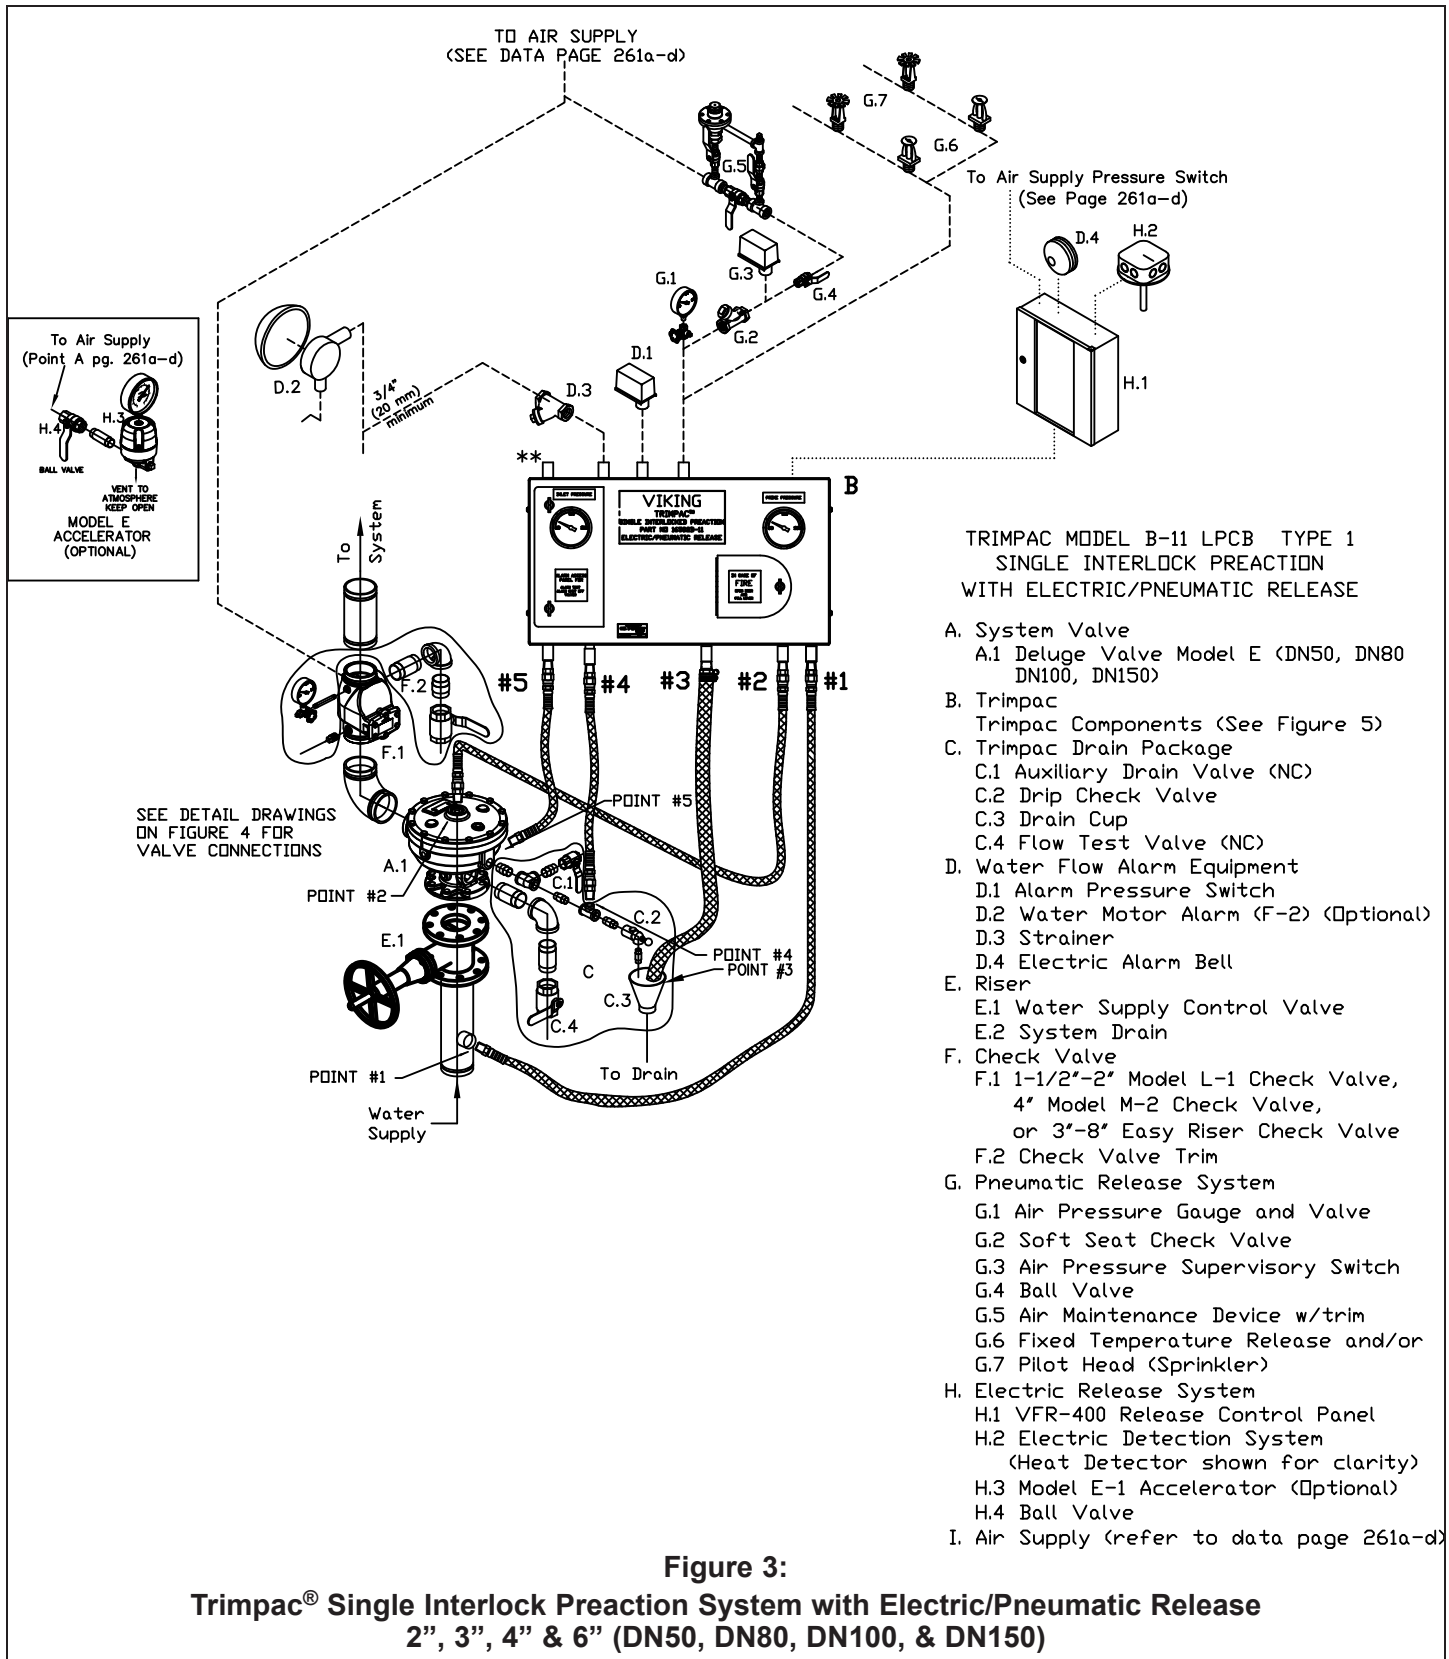

Figure 3:
5. OPERATION (Refer to Figures 3, 5, and 7.)
Refer to Figures 3 through 7 for component identification.
Legend for Figure 3